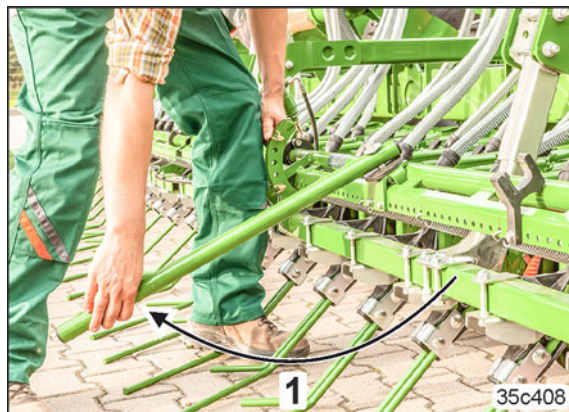

Fig. 188
1. Swivel the setting lever out of the parking position (Fig. 188/1)